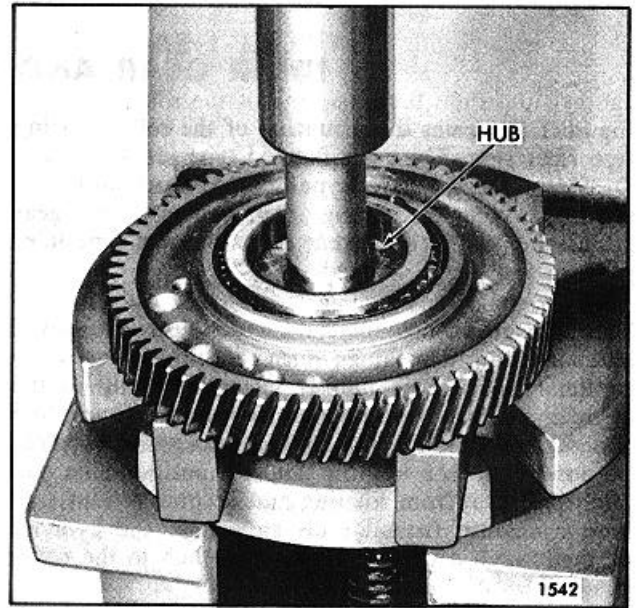

Fig. 2. Pressing Hub Out of Bearing
3. Place the idler gear and bearing assembly in an arbor press with the bearing cone or inner race supported on steel blocks as shown in Fig. 2. While rotating the gear assembly, press the hub out of the bearing. Remove the gear assembly from the arbor press and remove the bearing cones and spacers.